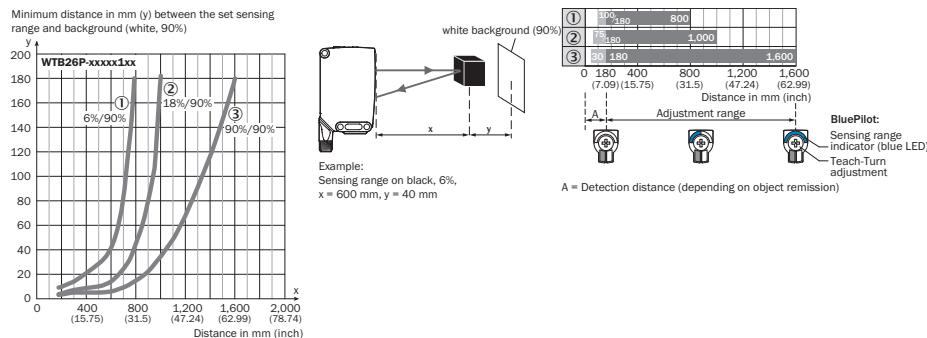

Figure 3: Characteristic line 1, WTB26P-xxxxx1xx, red light
The minimum distance (= y) for the background suppression can be determined from the diagram [figure 3 ①] as follows: